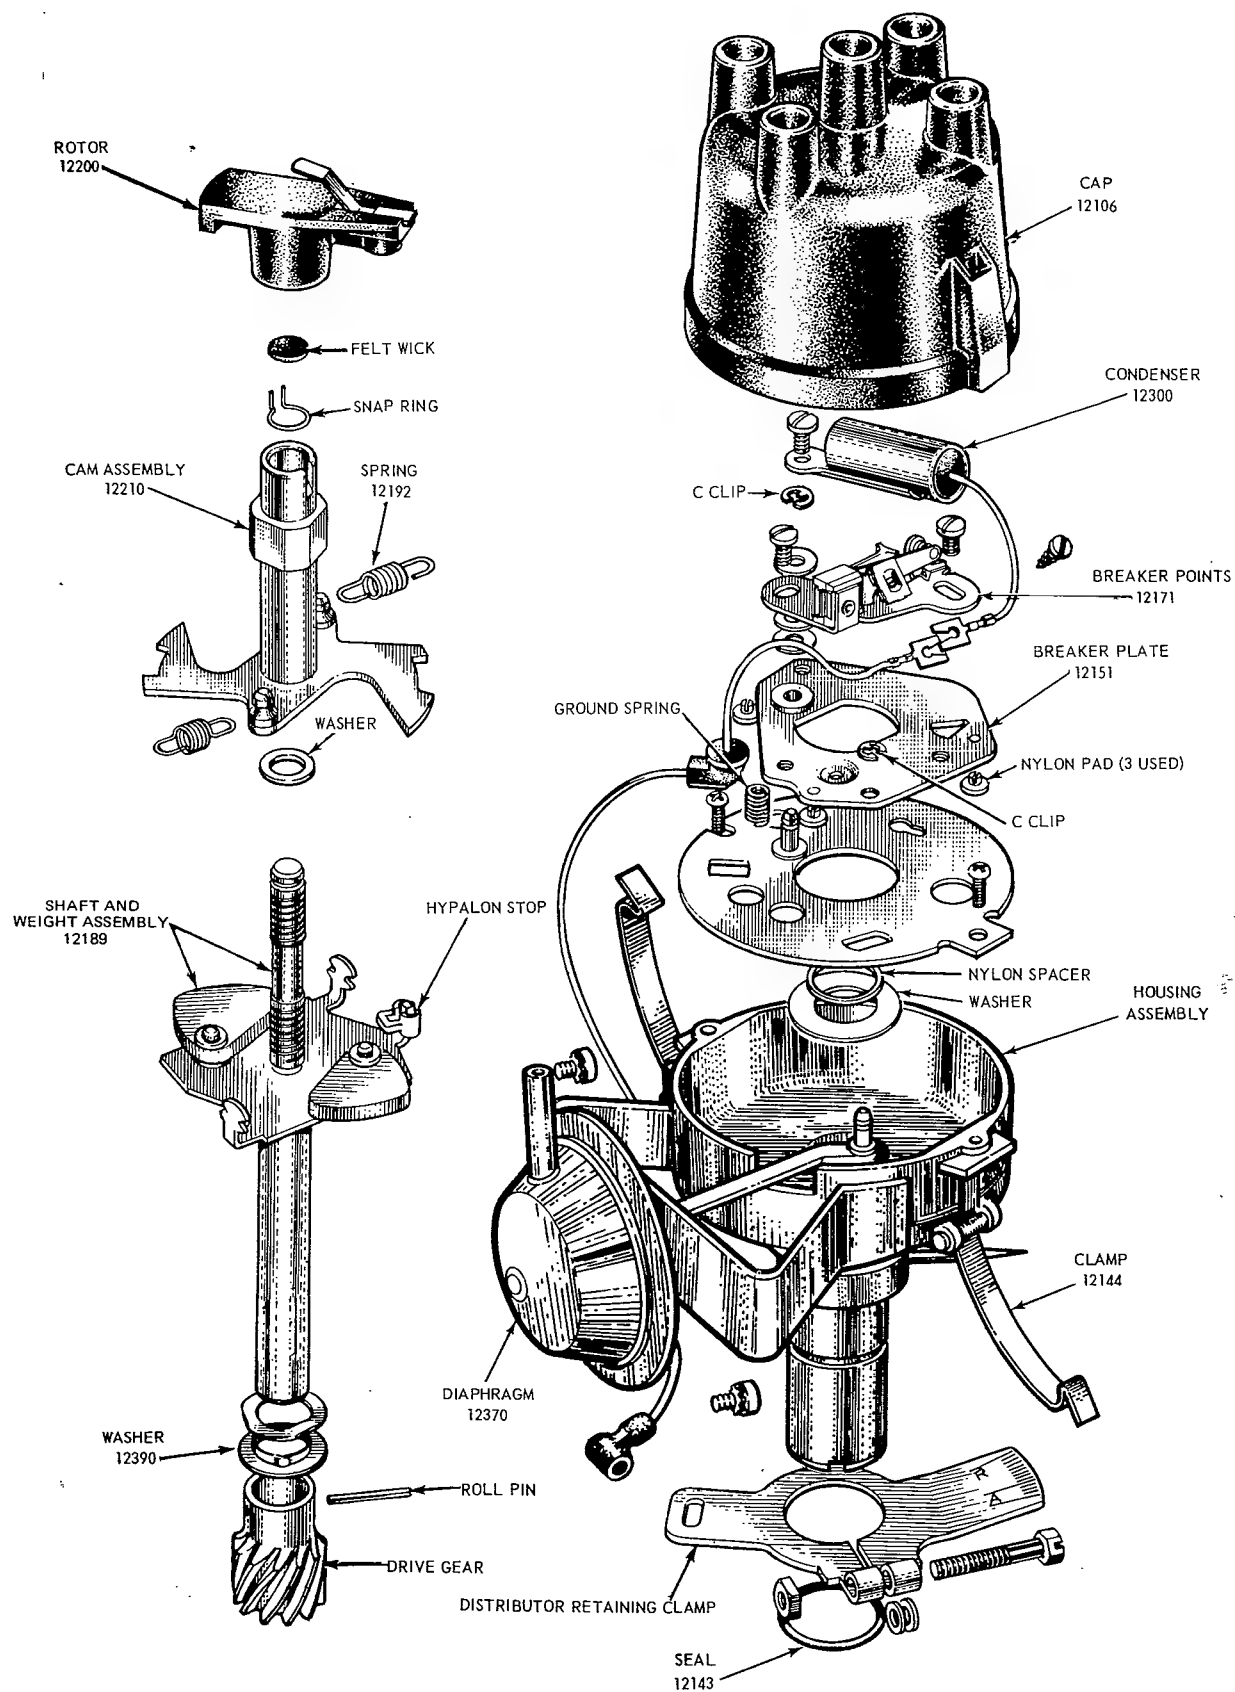

FIG. 14 Distributor — Disassembled
2. Remove the breaker points from the plate (Figure 14).